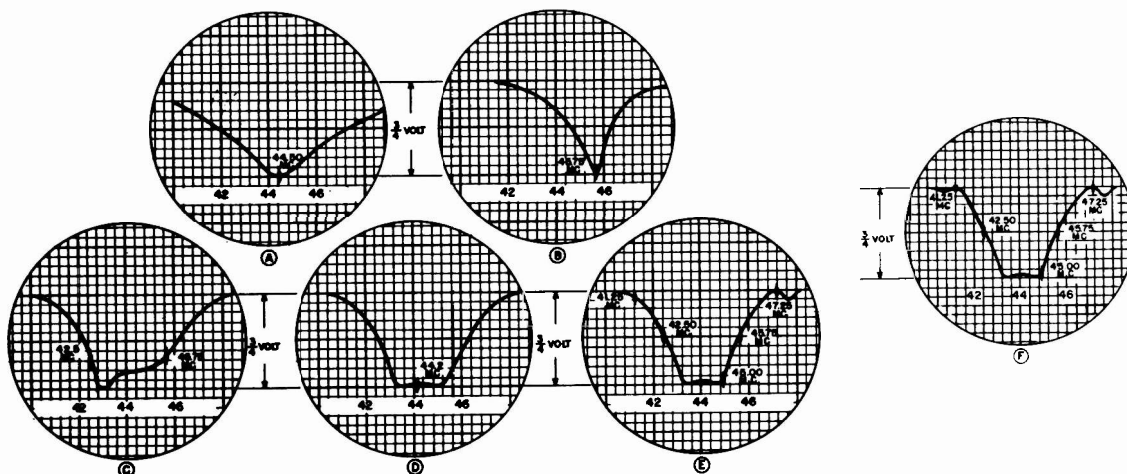

Fig. 21. Video I-F Curves
5. In most cases it is only necessary to perform an over-all alignment of the video i-f, as in Step 7 of the Video Alignment Chart, to obtain i-f response curve of Figure 21-E.
10. Adjust the signal input to give a video response curve of 3/4 volt, as shown in Figure 21.